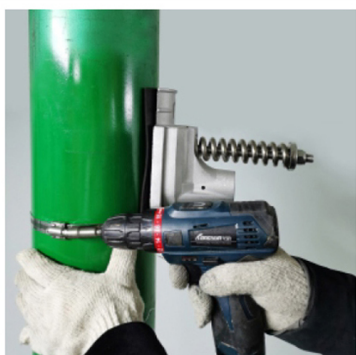

Figure 1
Step 1: Secure Banding Following the instructions appropriate for your banding, position and attach bracket to pole, using duct tape to temporarily secure bracket while metal bands are positioned (see Figure 1). Secure metal bands with screwdriver or banding tool and remove any duct tape. Reminder: Spring on top!